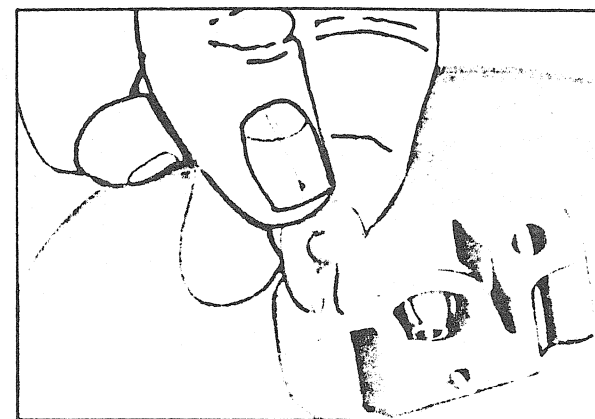

FIGURE 7
- With approx. 1½" of starter rope protruding through the sheave side, form a "U" shape with the rope end and position within the "U" the small jam pin. (Fig. 7).